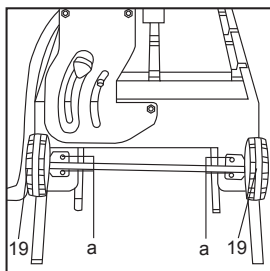

FIG 6
- Fit the transport wheels (19), the parking foot (20) and the transport handle (18) as shown in Figs. 6/7/8.